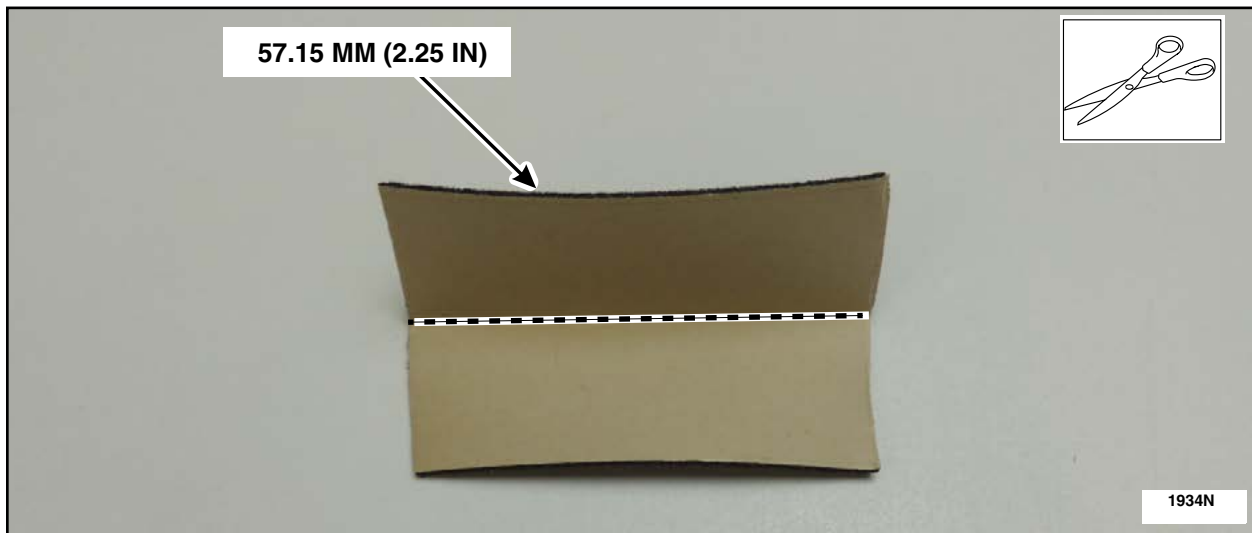

FIGURE 5
7. Take the 57.15 mm (2.25 in) piece of flocked tape fold and cut it in half length wise into two equal strips. See Figure 5.